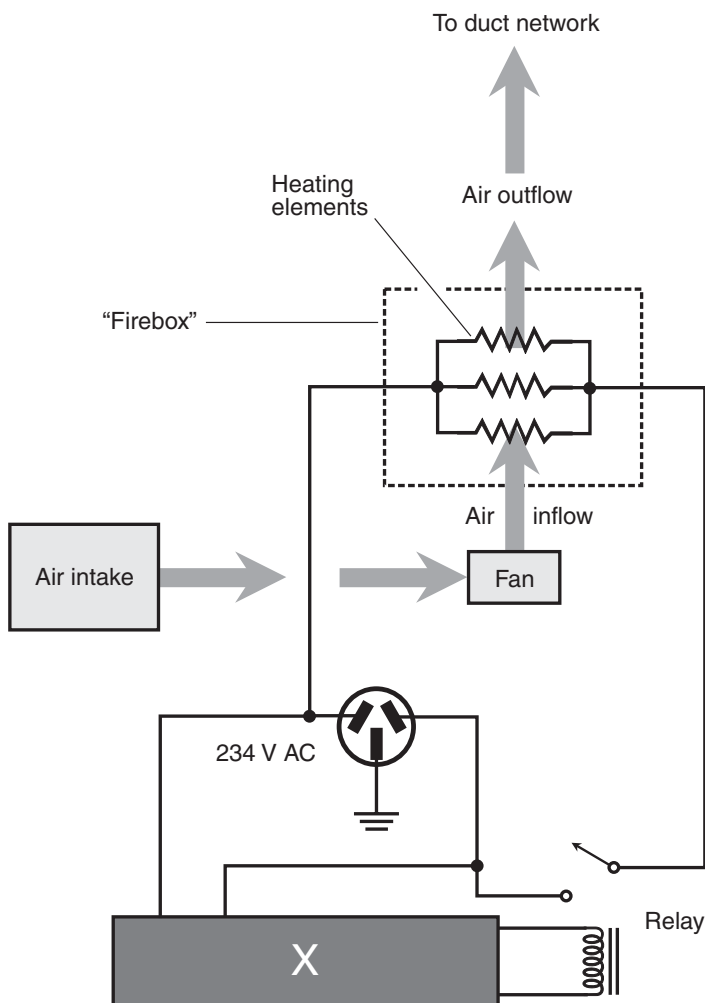

Figure Exam-3 Diagram for question 37.
37. In Figure Exam-3, the dark gray box with the white X represents